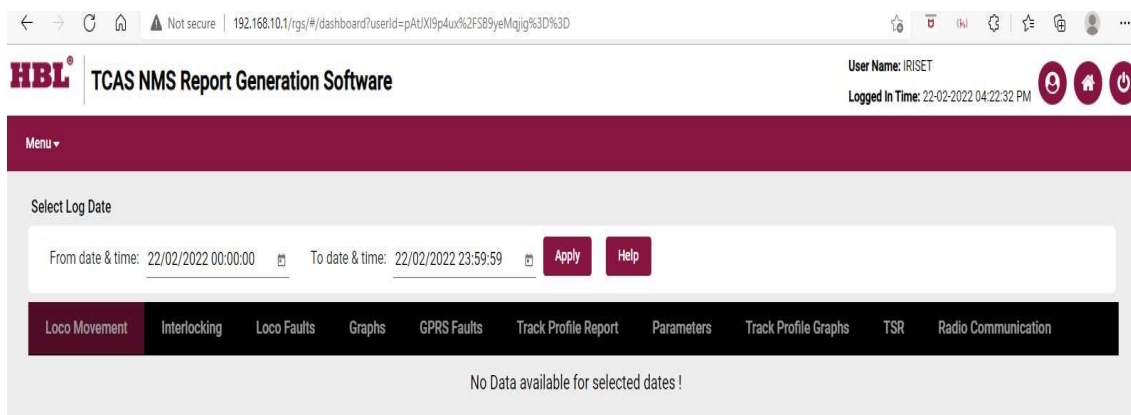

Fig .11 Report generation time selection
- 2.To generate a report for a particular time , From & to time is selected as shown in figure 11, and apply button is clicked